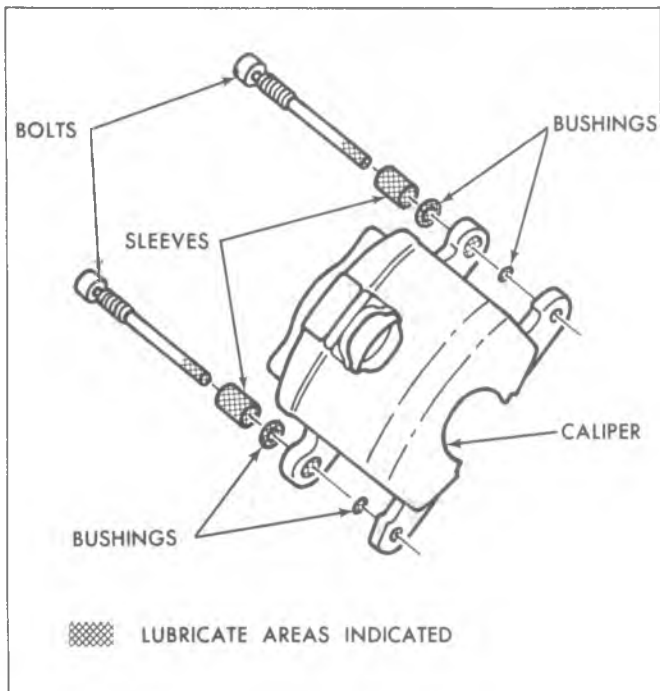

Fig. 30—Lubrication Points
1. Lubricate new sleeves, new rubber bushings, the bushing grooves and the end of the mounting bolts using Delco Moraine Silicone Lube or equivalent (fig. 30).